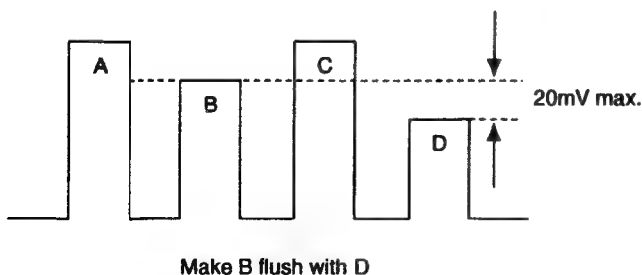

Fig. 5-12
3. Connect the probe of an oscilloscope to IC404 ⑩ PIN or TP402.
5. Adjust **SUB CHROMA NORMAL** so that the peaks of waveforms will be flush with each other as shown in Fig.5-12.
2. Input adjustment value 98 to **SUB CHROMA NORMAL**. (Fig.5-12)